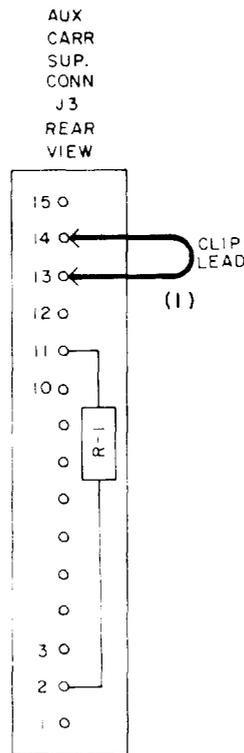

Fig. 19—Connections—Loss-of-Sync-Signal Test—Auxiliary Carrier Supply
56	<p>At the rear of the shelf for the A6 auxiliary carrier supply under test, connect pin 13 to pin 14 of jack J3 [connection (1), Fig. 19].</p> <p>Note: Jack J3 is a 935A connector used for the J68929AL carrier supply generator (Fig. 2). It is located in the first position (first slot) from the left end of the J68929AP carrier supply shelf when facing the rear of the shelf.</p> <p>Requirement: The office minor alarm is activated in less than 5 seconds.</p>